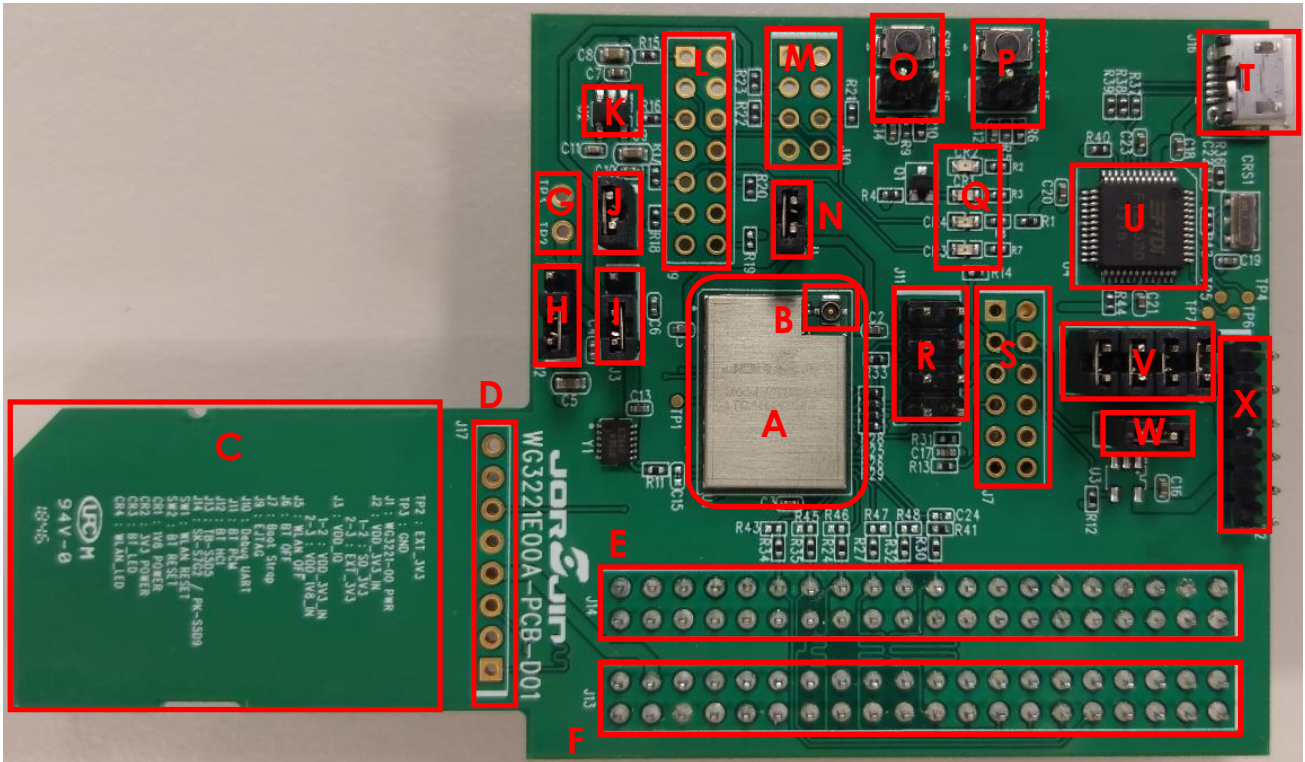

Figure 2: WG3221E00 board components
Green LED CR2 (Figure 2: WG3221E00 board components" – region Q) signals the board is being powered 3.3V, either via:
- SD card – SD1 (Figure 2: WG3221E00 board components" – region C), J13 (Figure 2: WG3221E00 board components" – region F), or J14 (Figure 2: WG3221E00 board components" – region E)
- an external DC power supply from TP2 (+3.3V) and TP3(GND). (Figure 2: WG3221E00 board components" – region G)
Green LED CR1 (Figure 2: WG3221E00 board components" – region Q) signals the board is being powered 1.8, via the 3.3V to 1.8V LDO (Figure 2: WG3221E00 board components" – region K).
The jumper J3 (Figure 2: WG3221E00 board components" – region I) sets the VIO
The host CPU can be connected to HCI interface through the J12 (Figure 2: WG3221E00 board components" – region X). When the J12 is connected to host CPU, the jumpers in J15 (Figure 2: WG3221E00 board components" – region V) must be removed.
The HCI UART can be also connected through USB –J18 (Figure 2: WG3221E00 board components" – region X). When the J18 is connected to USB host, the jumpers in J15 must be installed.
The BT PCM signals are connected to J11 (Figure 2: WG3221E00 board components" – region R).
There are 4 LEDs (Figure 2: WG3221E00 board components" – region Q) indicate the board status.
The board has two buttons to reset the WLAN and BT function (Figure 2: WG3221E00 board components" – region O and P). The board also has two jumpers to turn off the WLAN and BT function.